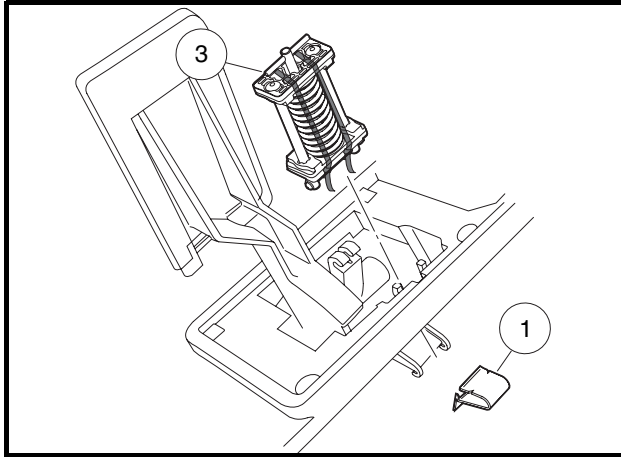

Figure 5-5 Accelerator Spring Clip
1. With the pedal group removed from the vehicle, remove the debris shield, the clip (13), and then the accelerator return spring assembly.
3. Insert the crosspin (3) through the rod on top of the accelerator return spring assembly. (**Figure 5-5, Page 5-6**).
4. Position the accelerator return spring assembly in the pedal group with the lower crosspin of the assembly position in the pedal group (**Figure 5-5, Page 5-6**).
7. Secure the clip (13) onto the bottom crosspin by gently tapping it with the head of a screwdriver until securely in position (**Figure 5-5, Page 5-6**)